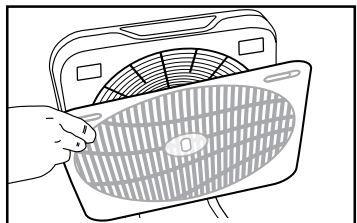

Fig. 2
2. Pull the grill away from the body until the tabs at the bottom of the grill plate easily slide away from the unit. See Fig. 2 & 3